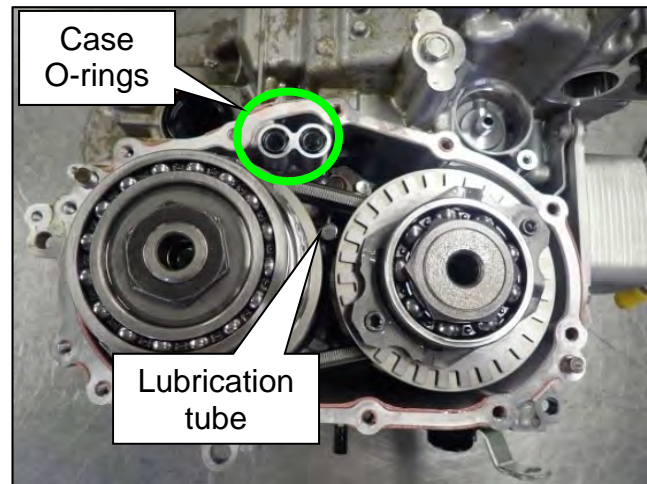

Figure 208
178. Install two (2) new case O-rings lubricated with CVT fluid (Figure 208).